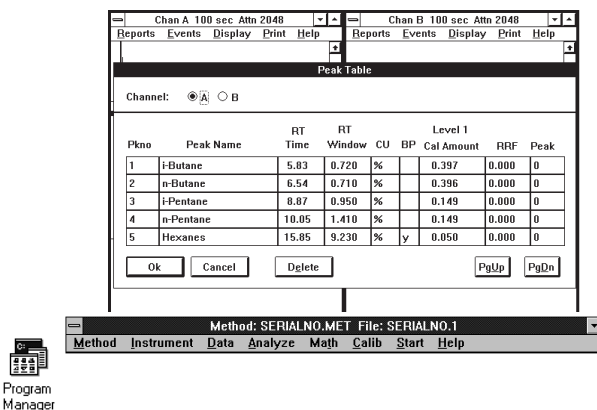

Figure 19 Peak table
2. Call up the Peak Table (See Figure 19) by selecting the **Method** menu and then the **Peak Table** command.